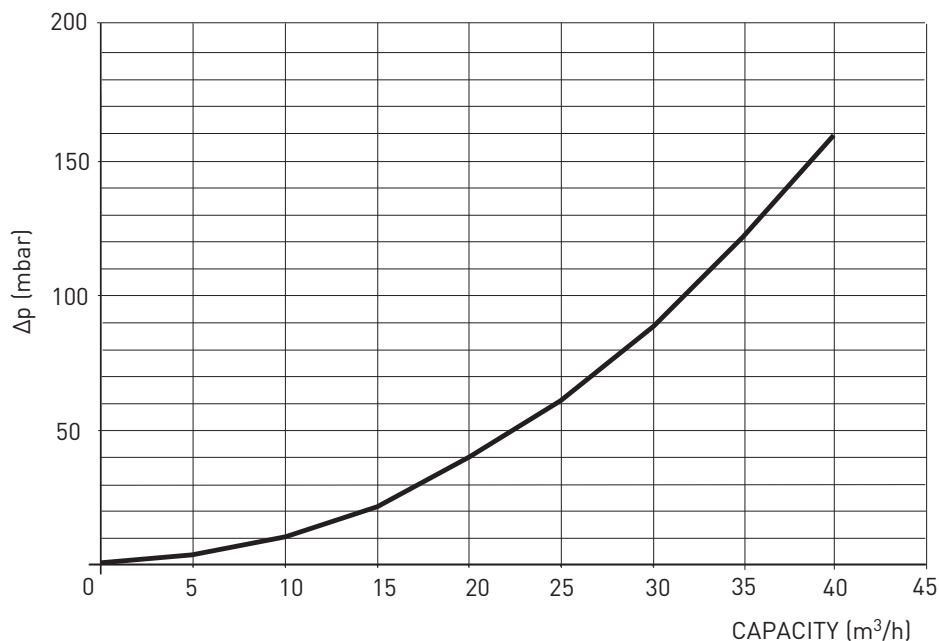

Fig. 4
1.6 PRESSURE DROPS OF THE HYDRAULIC COMPENSATOR SUPPLIED UPON REQUEST WITH KIT, CODE 8101553 (fig. 4)